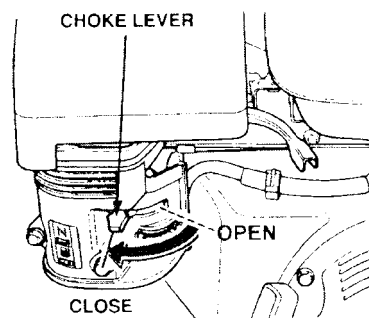

Figure 2. Engine Choke Lever
2. Place the **Choke Lever** (Figure 2) to the “**OPEN**” position.
6. If the engine has started, slowly return the **Choke Lever** (Figure 2) to the "**CLOSE**" position. If the engine has not started, repeat steps 1 to 5.